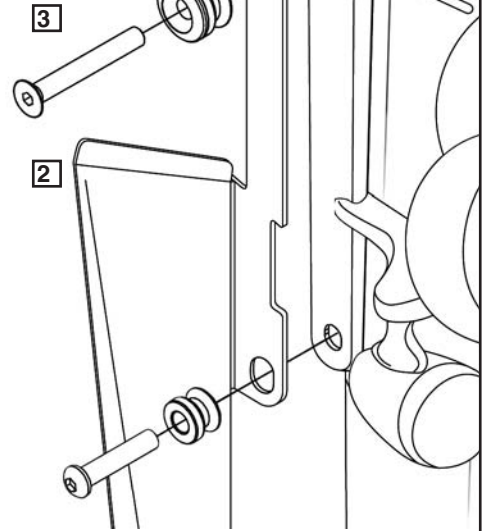

Figure 2.
1. Remove the Upper and Lower Spools from one side of the mount kit. Remove the Roller Cap from the Upper Spool, and reverse, thin side of spool is against Chrome Lower now (Figure 2). Keep Cushion in place.
2. Refer to figure 2. and install Chrome Lower. Use the supplied 2 1/4" Screws at the upper location. Be certain to reverse the Spools so the thin side of the Spool is against the Chrome Lower. Repeat on opposite side.